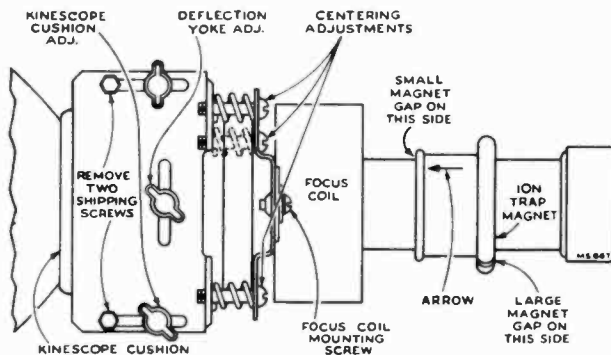

Figure 3—Yoke and Focus Coil Adjustments
**REMOVE THE TWO SELF-TAPPING SCREWS FROM THE KINESCOPE CUSHION SLIDE AS SHOWN IN FIGURE 3.**
Slip the ion trap magnet assembly over the neck of the kinescope with the large magnet towards the base of the tube and with the arrow on the assembly up as shown in Figure 3. The front magnet is movable on the assembly. The correct position of the front magnet is with the gap on the right side from the rear of the cabinet. The gap of the large rear magnet should be on the left side and 180 degrees from the gap of the small magnet.
**CENTERING ADJUSTMENT.**—No electrical centering controls are provided. Centering is obtained by mechanically orienting the focus coil with the three adjustment screws shown in Figure 3. Center the picture on the screen by adjustment of these screws. The focus coil should be concentric around the neck of the kinescope to prevent curvature of the raster.
**FOCUS COIL ADJUSTMENTS.**—If, after making the centering adjustments in the above paragraph, a corner of the picture is shadowed, it will be necessary to loosen the focus coil mounting screws (shown in Figure 3) and change the position of the coil to eliminate the shadow. Recenter the picture by adjustment of the centering screws.